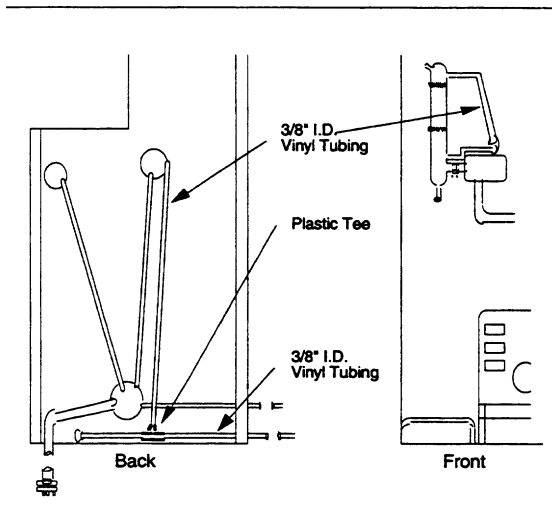

Figure 7 Tubing Connections
3. Install one end of the vinyl tubing to the cooling water outlet located on the top right of the condenser "B" (where boiler fill tube "O" was attached). Route the other end through the cabinet and down the back as shown in Figure 7.